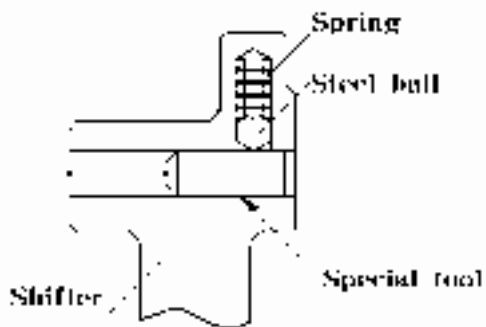

Fig.5-86
c. When installing the shifter on the shifter stay, Use the special tool as shown in Fig.5-86